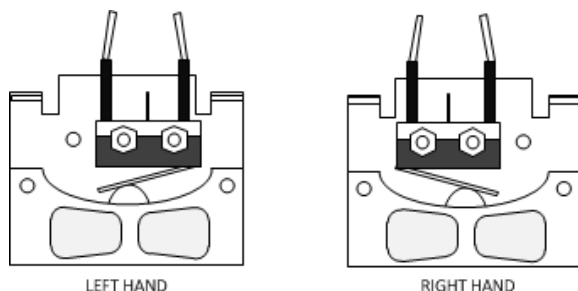

Fig. 12. Installing microswitch
2. Install micro switch into the correct position (See Fig. 12)